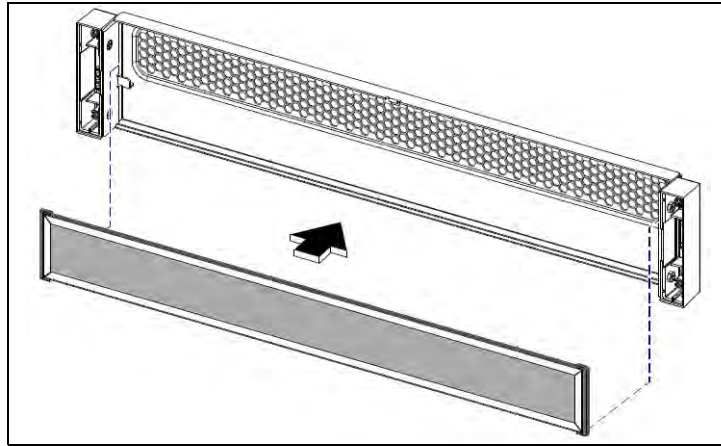

Figure C.43 - Air Filter Replacement
2. On the back side of the bezel, insert the air filter with the foam facing toward the bezel's vents. Align the bottom corners of the air filter per the thrust lines as (Figure C.43).